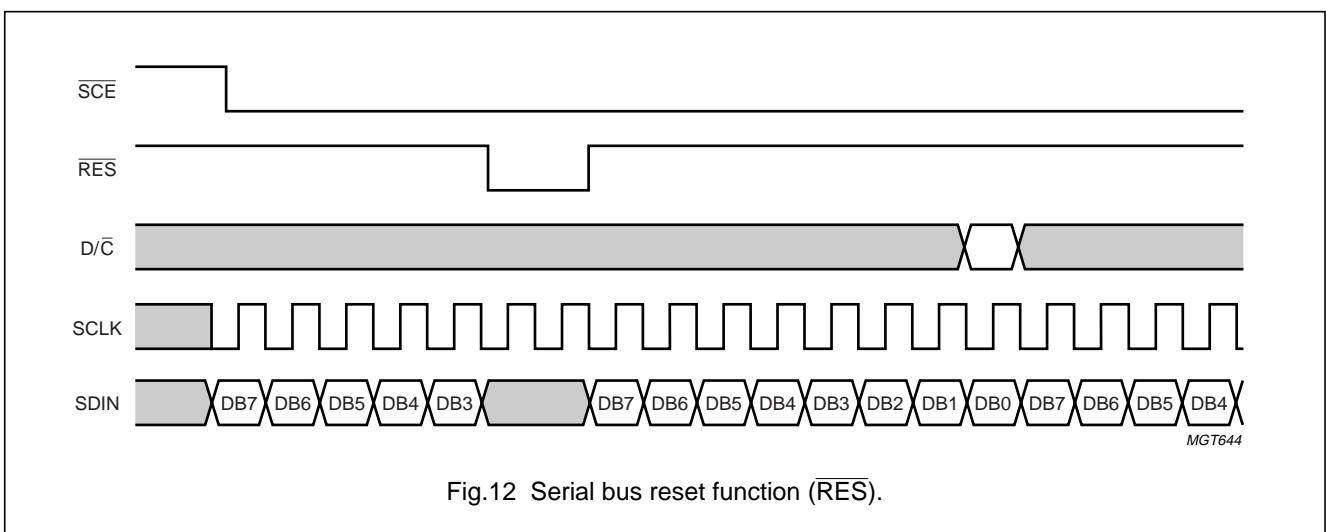

Fig.12 Serial bus reset function (\overline{RES}).
- When \overline{SCE} is HIGH, SCLK clocks are ignored. During the HIGH time of \overline{SCE} the serial interface is initialized (see Fig.12)
- If \overline{SCE} stays LOW after the last bit of a $\overline{\text{command/data}}$ byte, the serial interface expects DB7 of the next byte at the next positive edge of SCLK (see Fig.12). If SCLK goes LOW after the last data bit (DB0), either:
- A reset pulse with \overline{RES} interrupts the transmission. No data is written into the RAM. The registers are cleared. If \overline{SCE} is LOW after the positive edge of \overline{RES} , the serial interface is ready to receive bit 7 of a $\overline{\text{command/data}}$ byte (see Fig.12).